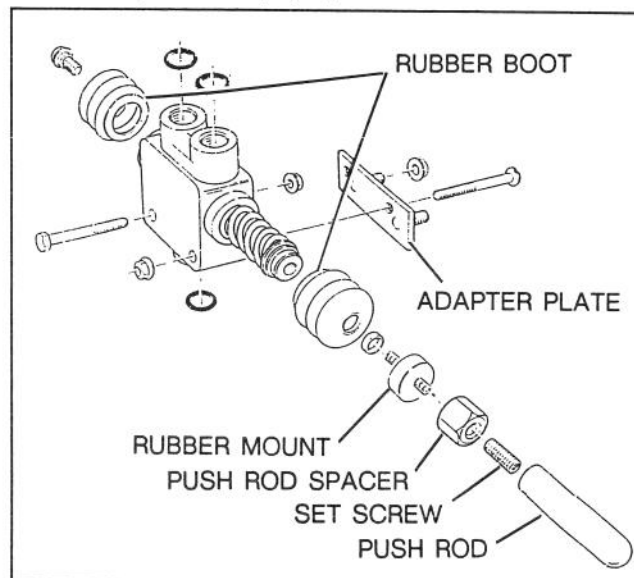

Figure 3
1. Install a rubber boot over output end of valve spool and onto edge of valve boss. Thread shoulder bolt into spool end (Fig.3).
2. Install a rubber boot over input end of valve spool (Fig.3). Stretch boot so it fits over casting flange.
3. Insert a spacer into boot opening, on input end of valve spool (Fig.3).
4. Thread the rubber mount, removed from old valve, into input end of spool (Fig.3).
5. Thread a push rod spacer onto rubber mount (Fig. 3).
6. Thread a set screw into push rod spacer (Fig.3).
7. Thread the push rod, removed from old valve, onto set screw (Fig.3).
8. Mount adapter plate to valve with (2) machine screws and flange lock nuts, as shown in fig.3.
9. Coat (3) new o-ring seals with oil and install in valve.
11. Mount valve and adapter plate to frame with (2) flange lock nuts. Make sure push rod is inserted through frame guide when installing.